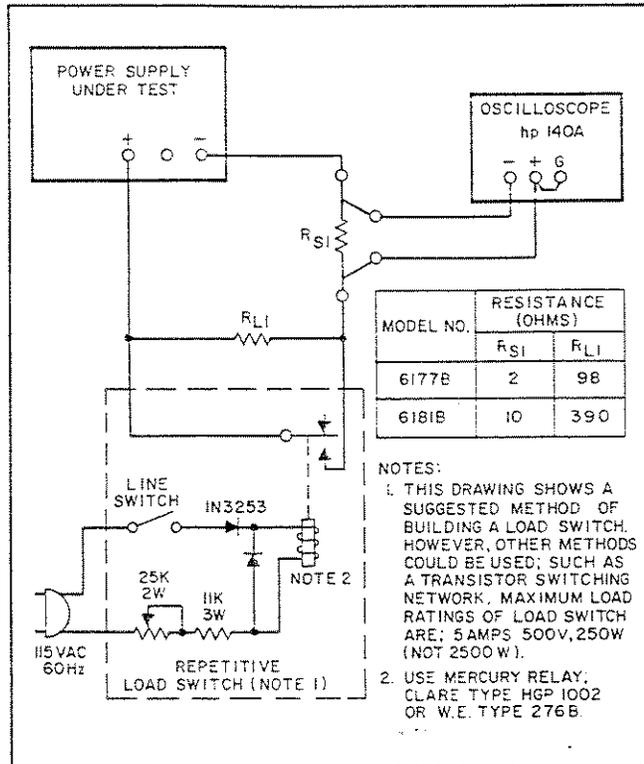

Figure 5-5. Load Transient Recovery Time, Test Setup
5-27 A mercury-wetted relay, as connected in the load switching circuit of Figure 5-5 should be used for loading and unloading the supply. When this load switch is connected to a 60Hz ac input, the mercury-wetted relay will open and close 60 times per second. Adjustment of the 25K control permits adjustment of the duty cycle of the load current switching and reduction in jitter of the oscilloscope display.
- a. Connect test setup shown in Figure 5-5.